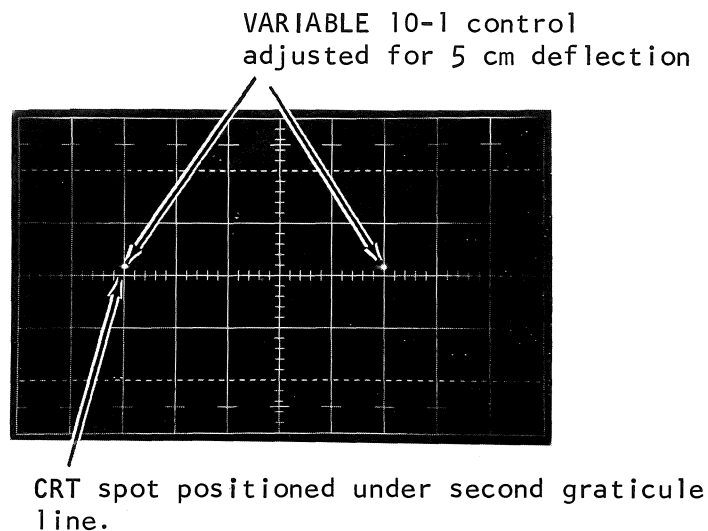

Figure 5-17
4. Adjust the HORIZONTAL POSITION control on the 545B to position the CRT spot under the second graticule line (see figure 5-17).
6. Adjust the VARIABLE 10-1 control on the 545B for exactly 5 cm of deflection between the two spots (see figure 5-17) (1 v/cm sensitivity).